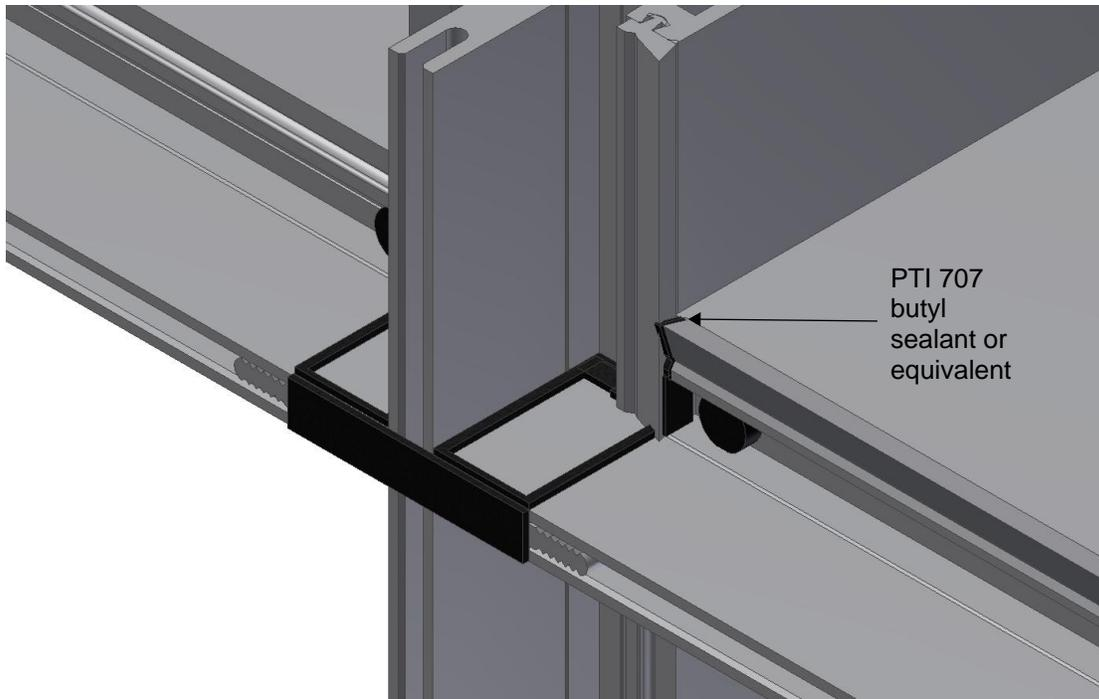

Figure 17: Apply butyl sealant where the vertical gaskets will meet the horizontal gaskets.
- Apply butyl sealant where the vertical gaskets will meet the horizontal gaskets as shown in Figure 17.